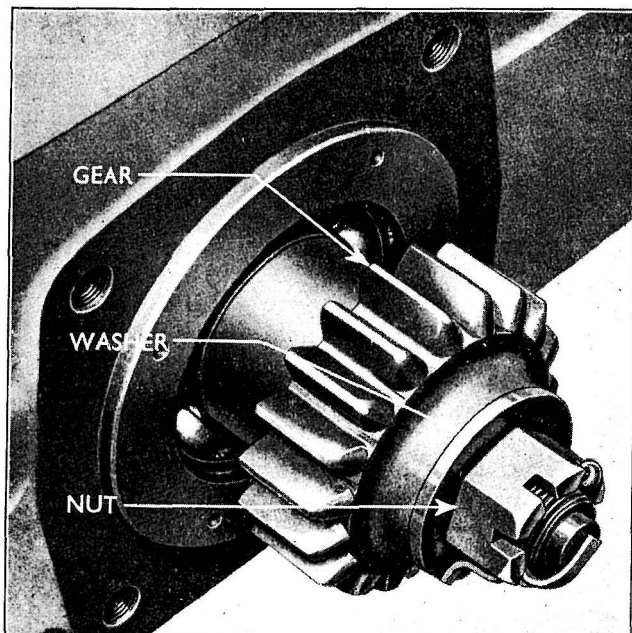

Fig. 270
- 1 Grasp the extension shaft firmly and pull it out from the rear transmission housing, after removing the raised power take-off as described above. (See Fig. 270.)